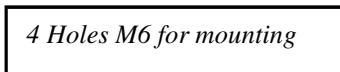

Figure 3: / Figure 3:
*Install the Power Inverter with rubber damper at the 4 holes M6 in the left and right side from the heatsink. (See Figure 3) / Mount the MC300 on the structure with vibration dampers and using the 4 * M6 threaded holes on the right and left side of the heatsink. Install the Power Inverter with rubber damper at the 4 holes M6 in the left and right side from the heatsink. (See Figure 3)*